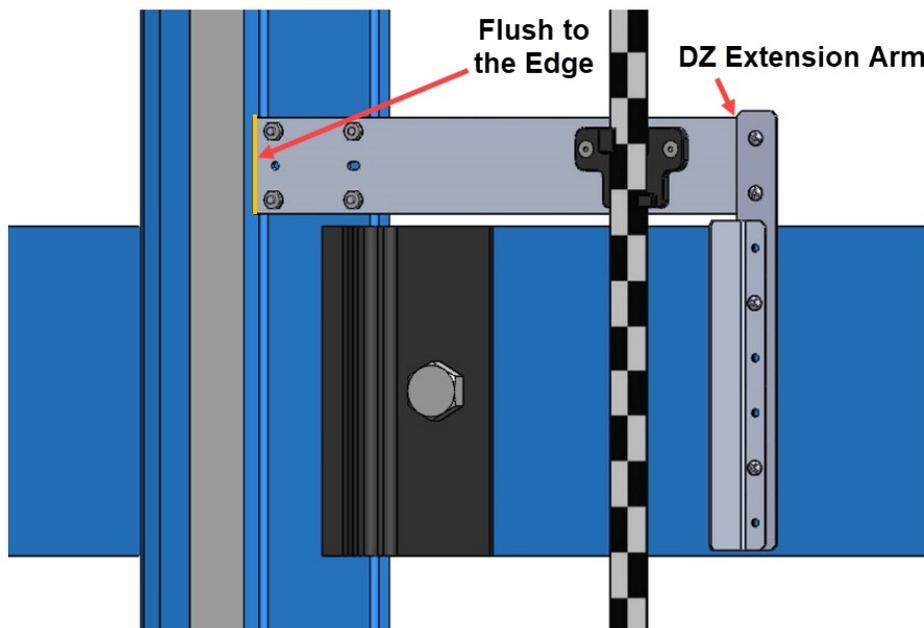

Figure 16: Tape Clip Assembly Alignment
- Install the door zone extension arm using the same screws, nuts, and washers. See Figure 16.